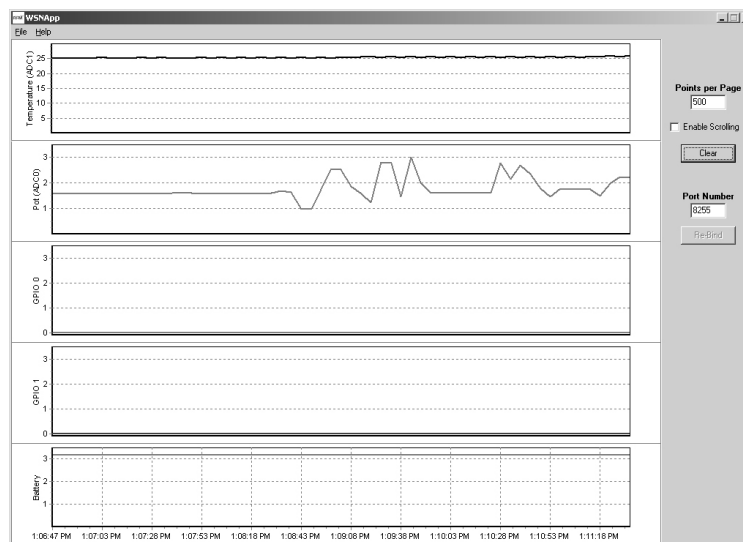

Figure 5
8. Start WSNApp.exe. Data will automatically begin filling the charts at a 10 s update interval, with data first appearing 20 to 30 s after starting the program. Adjusting the pot on the developer board can be observed in the Pot (ADC0) chart, as shown in Figure 5. The developer kit is now ready for use.